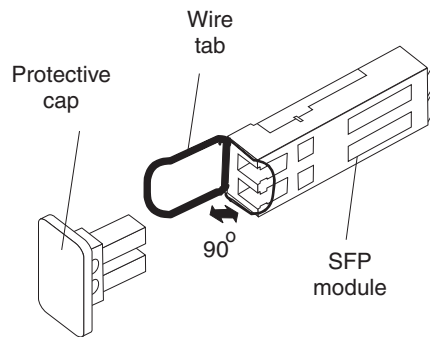

Figure 51. Unlocking the SFP module latch - wire variety
- For SFP modules that contain wire tabs, unlock the SFP module latch by pulling the wire latch outward 90°, as shown in Figure 51 on page 67.